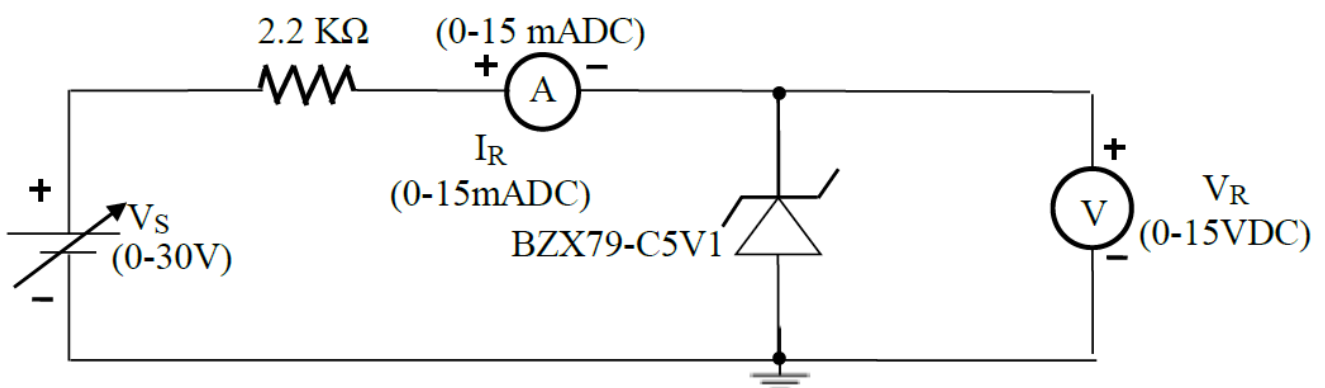

Fig. 2 Schematic for reverse bias
1. Now connect the circuit according to the schematic in Fig 2. Increase the voltage in steps of 2V up to 12V and then at 16V while noting down the reverse current in Table 2.